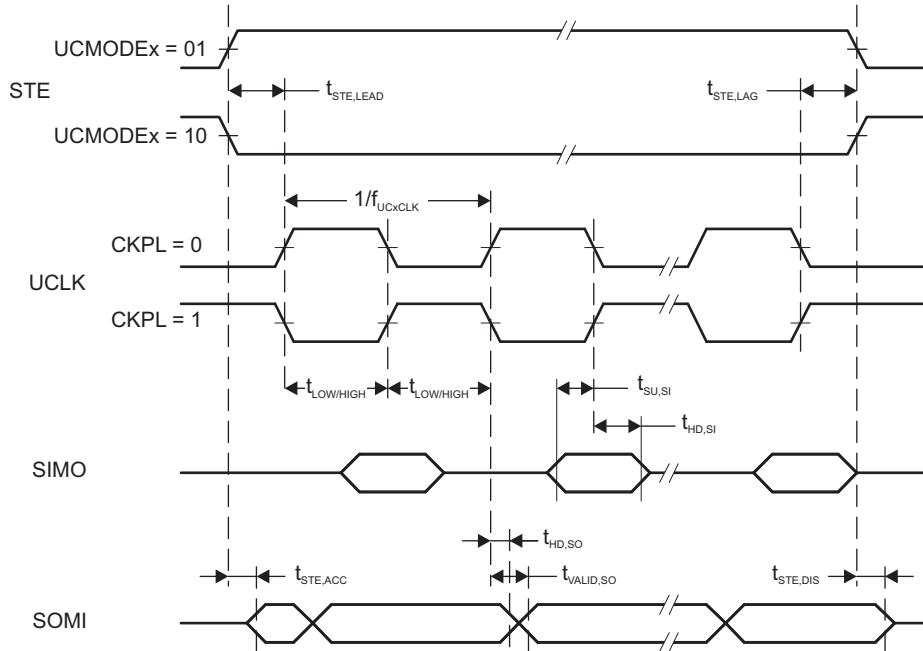
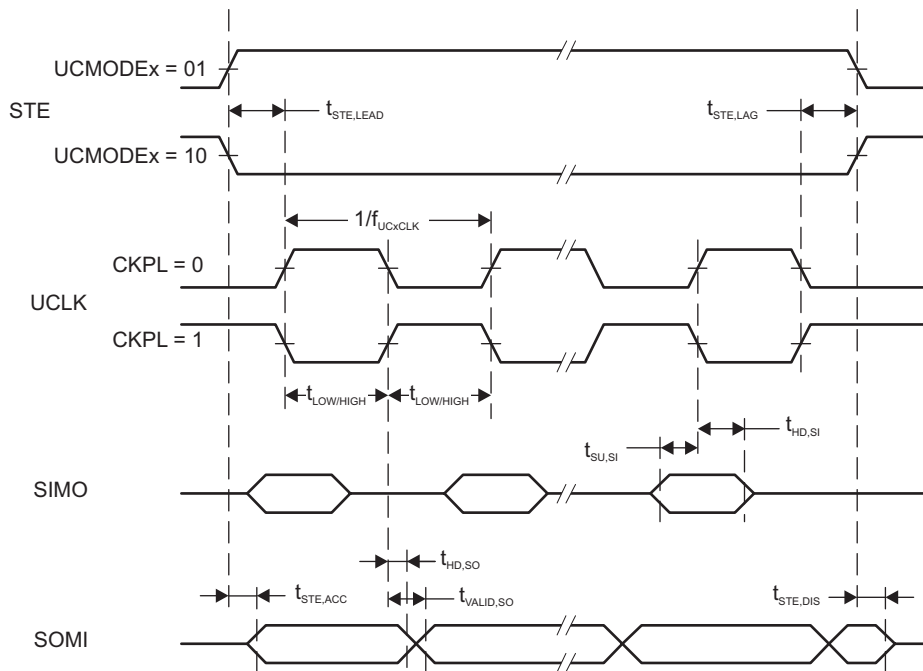

Figure 5-15. SPI Slave Mode, CKPH = 0
Figure 5-16. SPI Slave Mode, CKPH = 1
- (2) Specifies the time to drive the next valid data to the SOMI output after the output changing UCLK clock edge. See the timing diagrams in Figure 5-15 and Figure 5-16.
- (3) Specifies how long data on the SOMI output is valid after the output changing UCLK clock edge. Refer to the timing diagrams in Figure 5-15 and Figure 5-16.